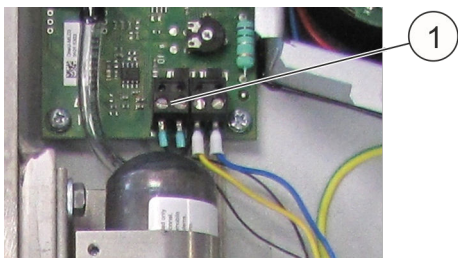

Fig. 92: Connection loss monitoring
13. ▶ Loosen the electrical connection (Fig. 92/1) of the loss monitoring.